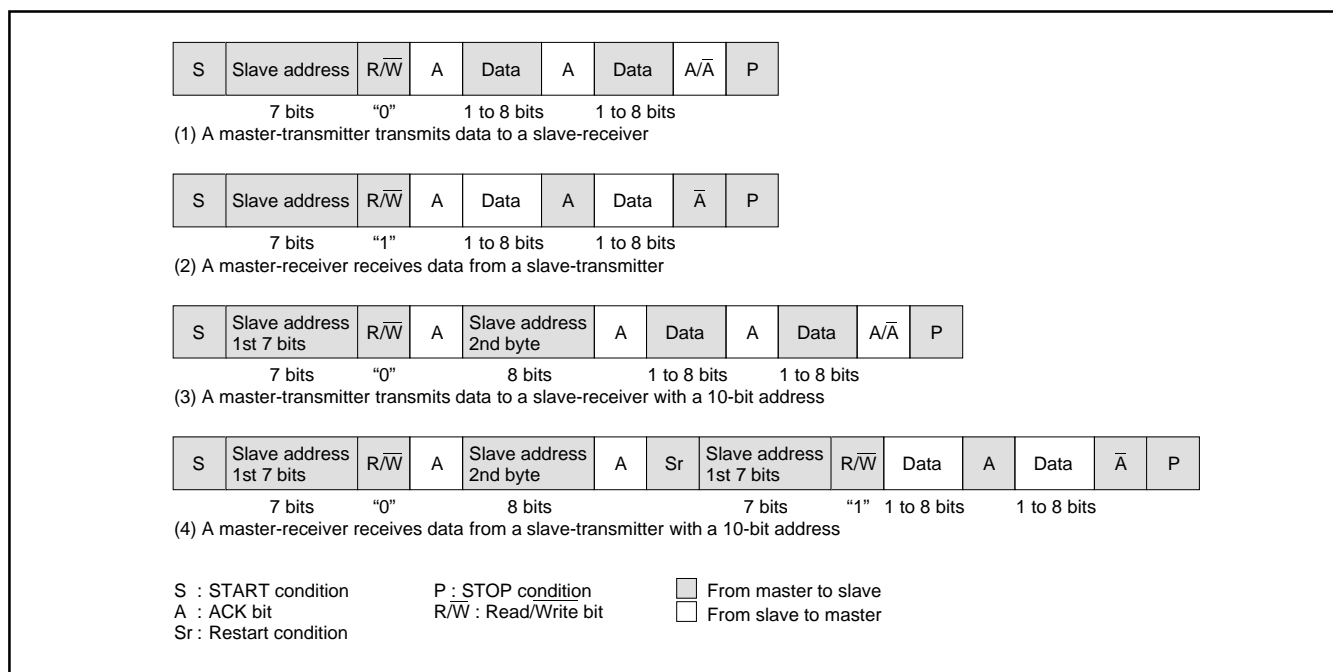

Fig. 8.6.12 Address Data Communication Format
To meet the 7-bit addressing format, set the 10BIT SAD bit of the I2C control register (address 00F916) to "0." The first 7-bit address data transmitted from the master is compared with the high-order 7-bit slave address stored in the I2C address register (address 00F716). At the time of this comparison, address comparison of the RBW bit of the I2C address register (address 00F716) is not made. For the data transmission format when the 7-bit addressing format is selected, refer to Figure 8.6.12, (1) and (2).
When the first-byte address data matches the slave address, the AAS bit of the I2C status register (address 00F816) is set to "1." After the second-byte address data is stored into the I2C data shift register (address 00F616), make an address comparison between the second-byte data and the slave address by software. When the address data of the 2nd bytes matches the slave address, set the RBW bit of the I2C address register (address 00F716) to "1" by software. This processing can match the 7-bit slave address and R/W data, which are received after a RESTART condition is detected, with the value of the I2C address register (address 00F716). For the data transmission format when the 10-bit addressing format is selected, refer to Figure 8.6.12, (3) and (4).